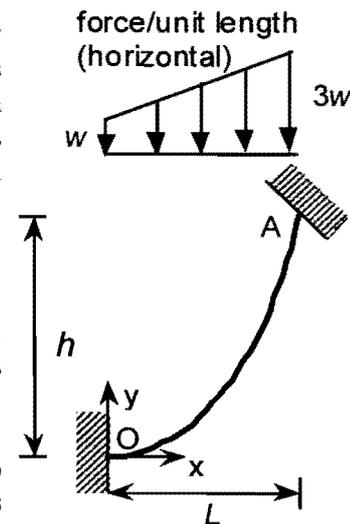

Figure 1
- * 2. Figure 1 shows a flexible cable OA, loaded vertically by a distributed load (including self-weight) which varies linearly in intensity from w to $3w$ across the horizontal span L . Point A is at height h above O. The tension in the cable is such that the tangent at O is horizontal. Find the tension at A and derive an equation for the shape of the cable.